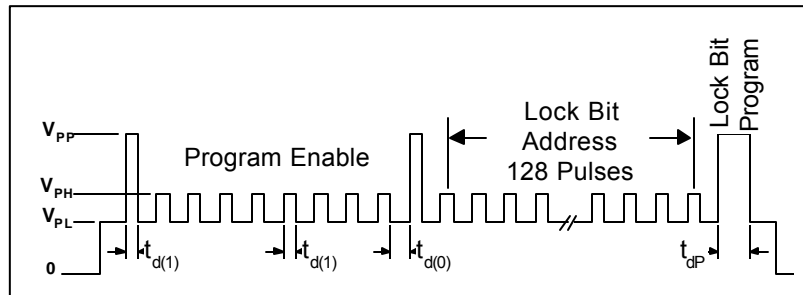

Figure 7 – Lock-Bit Programming Pulse Sequence
**Lock-Bit Programming.** After the desired code is programmed, the lock bit (code 128), can be programmed (figure 7) to prevent further programming of the device. Again; programming is not reversible.